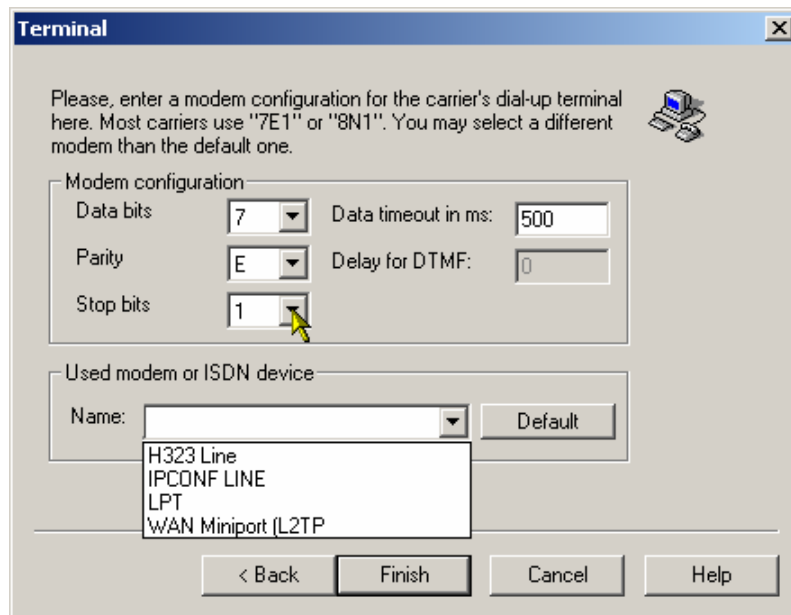

Figure A.13. Configuring a New TAP Service: Terminal Tab
6. On the **Terminal** tab, shown in **Figure A.13**, select the modem driver from the drop-down list under the **Used modem or ISDN device** field.